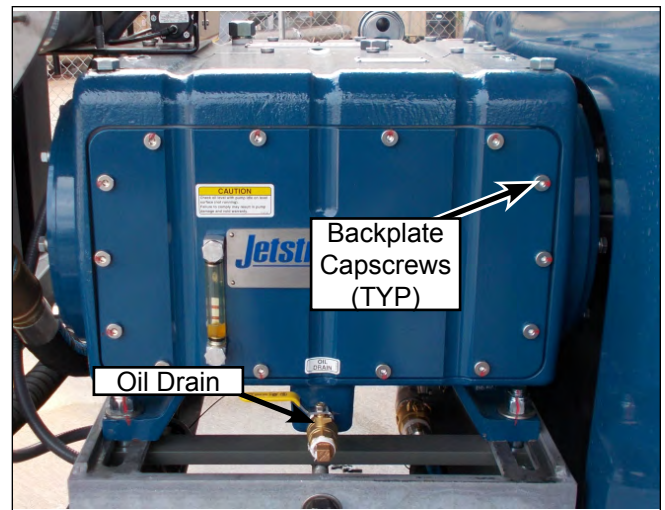

Figure 114: Drain Oil then Remove Back Plate
3. Once drained, remove the back plate (Figure 114).